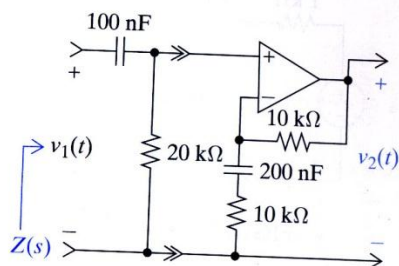

FIGURE P11-10
- 11-10 Find the voltage transfer function $T_V(s) = V_2(s)/V_1(s)$ of the cascade connection in Figure P11-10. Locate the poles and zeros of the transfer function.
- 11-11 Find the input impedance $Z(s)$ in Figure P11-10.